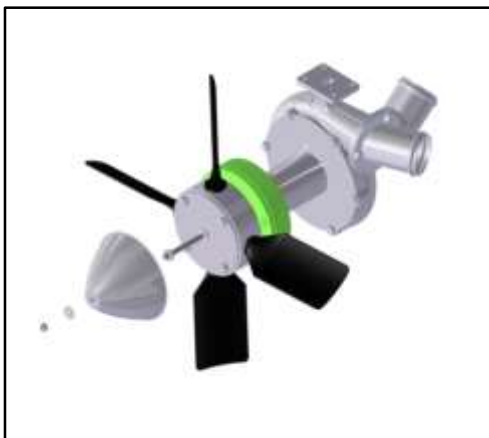
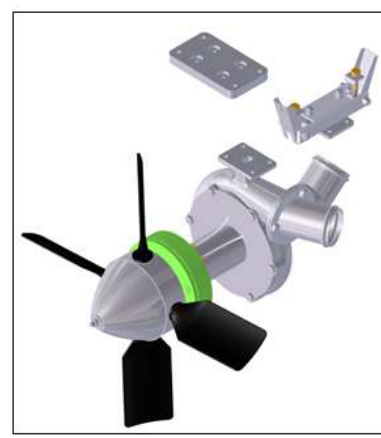

Figure 32: locking the spinner.
Figure 33: mounted pump.
- o) Rotate the blades with your hand and make sure that the assembly rotates freely without any difficulty and noise. Next, close the spinner using a 1/4" washer (wide) and a 1/4" locknut (figure 32). Mount the pump on your aircraft support (figure 33).